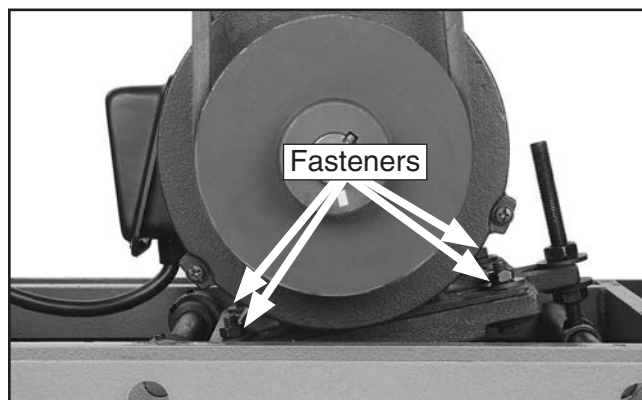

Figure 60. Motor mount fasteners.
4. Loosen the motor mount fasteners shown in **Figure 60**.